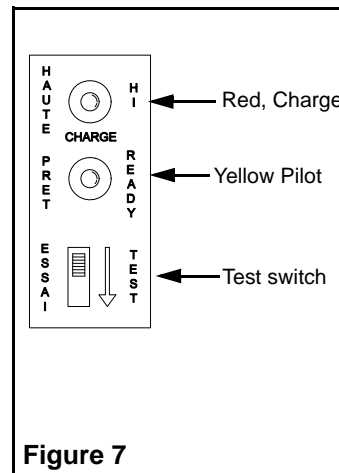

Figure 7
10. Energize AC circuit. Pilot lights will come on. Red indicates that the charger is on high charge (not present on RSC units). Yellow is an indication that the AC supply is present (see fig. 7). After the unit has reached full charge, it is normal for the red light to pulse on occasionally. However, if the red pilot light remains on for more than a week, it is an indication of a malfunction.
Press test switch (see fig. 7). Lights will illuminate, AC pilot lamp will extinguish. On release, pilot lamp will illuminate, lights will turn off, and the automatic charger will restore battery to full charge.